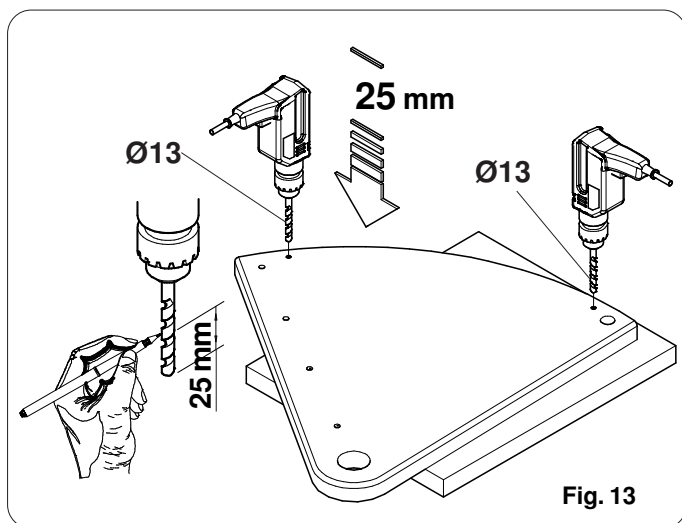

Fig. 13
- Temporarily disassemble the final step to drill the points marked previously as shown in fig. 13 - 13a.